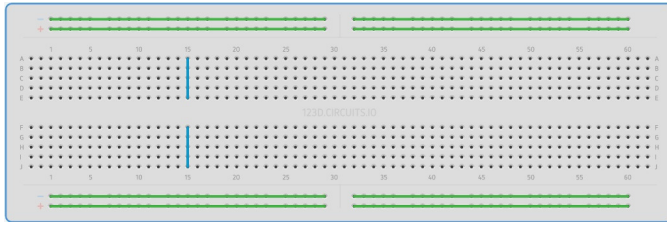

Fig. 3.1.1: Breadboard
- 3.1. Connect the 5V pin of the Arduino1 to an extreme pin of the Breadboard shown in Fig. 3.1.1. Let this pin be V_{cc} .